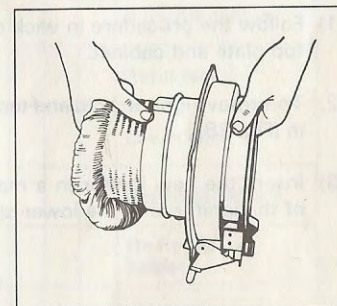

Fig. 25
- (10) Fold the new wick and puts it into the wick holder with the glass fiber portion pointing up. Align the black line marked on the tape with the bottom of the wick holder. Smooth the wick in the holder over the wick holding pawls (Fig. 25).